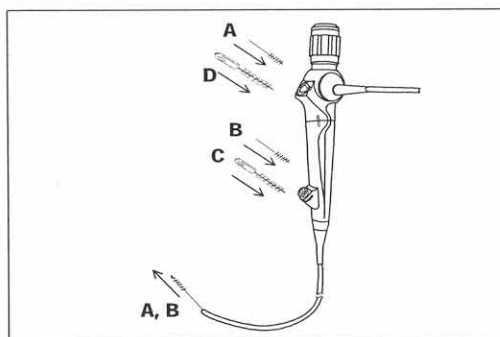

Figure 7.9
While the endoscope is submerged, brush the channel in the following order. (See Figure 7.9)
2. Insert the Channel Cleaning Brush into the Suction Valve Housing as illustrated by A in Figure 7.9. Using short strokes, feed the brush through the channel until it emerges from the Distal End of the endoscope.
2. Insert the Channel Cleaning Brush into the Instrument Channel Port as illustrated by B in Figure 7.9. Using short strokes, feed the brush through the Channel until it emerges from the Distal End of the endoscope.
1. Insert the Channel-opening Cleaning Brush (MH-507) into the Instrument Channel Port until the brush handle hits the channel opening as illustrated by C in Figure 7.9. Turn the brush once.
1. Insert the Channel-opening Cleaning Brush into the Suction Valve Housing as illustrated by D in Figure 7.9 until half of the bristles section is inserted. Turn the brush once.